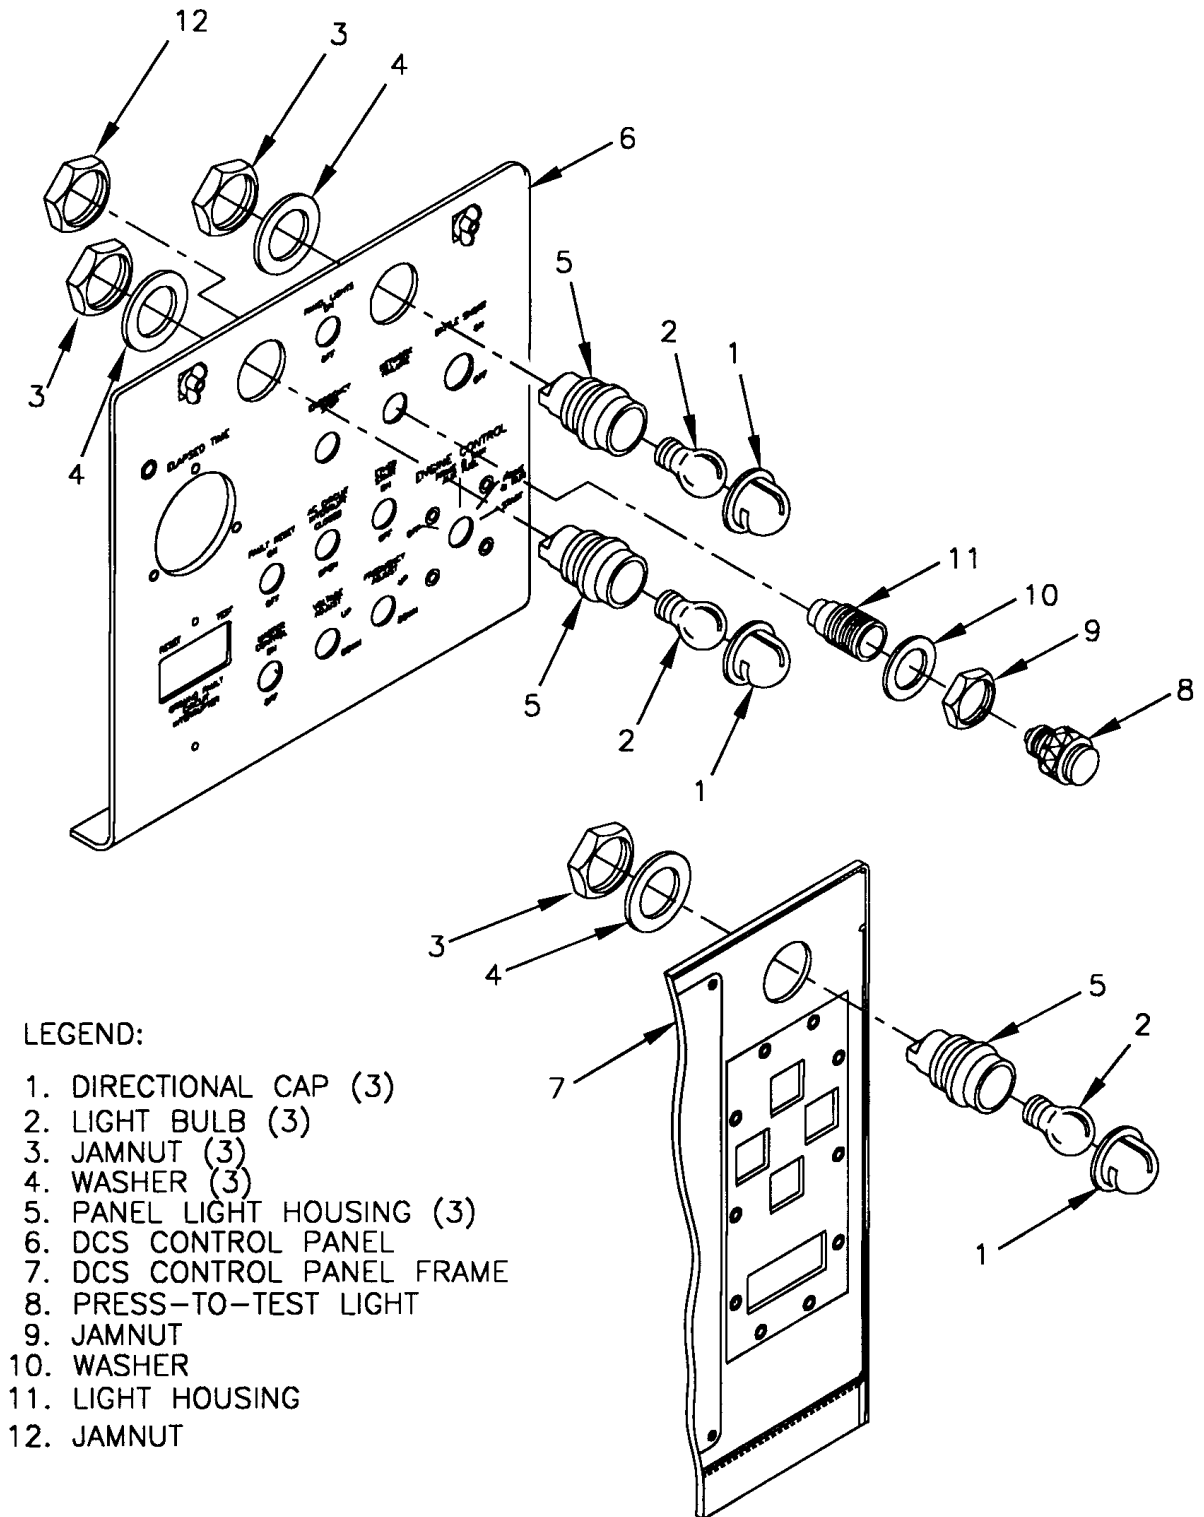

FIGURE 4-11. DCS CONTROL BOX PANEL LIGHTS DS1 THROUGH DS3
- (1) Shut down generator set, paragraph 2.11.2.
- (2) Remove directional cap (1, Figure 4-11) from panel light housing (5).
- (3) Remove light bulb (2) from panel light housing (5).
- (4) Set multimeter to ohms, and check light bulb for continuity across base and threads. Multimeter should indicate continuity.
- (5) If multimeter does not indicate continuity, replace light bulb (2).
- (6) Inspect directional caps (1) for cracks, corruptions, stripped threads, and other damage.
- (7) Release DCS control panel by turning two fasteners, and lower panel slowly.
- (8) Inspect panel light housings (5) on DCS control panel (6) for cracks, corrosion, stripped threads, and other damage.
- (9) Install light bulb (2) in panel light housing (5).
- (10) Install directional cap (1) on panel light housing (5).
- (11) Raise and secure DCS control panel.
- (12) Remove DCS control box top panel, paragraph 4.7.2.
- (1) Remove directional cap (1, Figure 4-11) from panel light housing (5).
- (2) Remove light bulb (2) from panel light housing (5).
- (3) Install light bulb (2) in panel light housing (5).
- (4) Install directional cap (1) in panel light housing (5).
- (3) If defective panel light is on DCS control panel (6, Figure 4-11), release DCS control panel by turning two fasteners, and lower panel slowly.
- (4) If defective panel light is on DCS control panel frame (7), remove DCS control box top panel, paragraph 4.7.2.
- (5) Tag and disconnect panel light housing (5) electrical leads.
- (6) Remove jamnut (3), washer (4), and panel light housing (5) from DCS control panel (6) or DCS control panel frame (7).
- (7) Install panel light housing (5), washer (4), and jamnut (3) on DCS control panel frame (7) or DCS control panel (6).
- (8) Connect panel light housing (5) electrical leads. Remove tags.
- (9) If removed, install DCS control box top panel, paragraph 4.7.2.
- (10) If lowered, raise and secure DCS control panel.
- (11) Connect negative battery cable to battery, and close BATTERY ACCESS doors.
- (2) Release DCS control panel by turning two fasteners, and lower panel slowly.
- (3) Inspect light housing (11, Figure 4-11) for cracks, corrosion, evidence of shorting, and other damage.
- (4) Raise and secure DCS control panel.
- (1) Unscrew to remove press-to-test light (8, Figure 4-11) from light housing (11).
- (2) Screw press-to-test light (8) into light housing (11) to install.